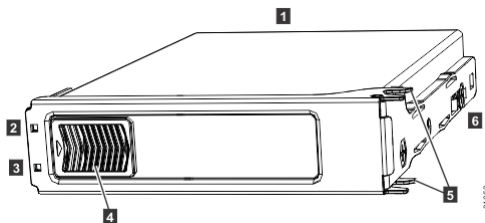

Figure 34. Drive assembly
The 5U expansion enclosure supports 92 drives. Figure 34 on page 46 shows an example of a drive assembly.
**Note:** When a drive is faulty, the amber fault indicator is lit (**3** in Figure 34 on page 46). Do not replace a drive unless the drive fault indicator is on or you are instructed to do so by a fix procedure.